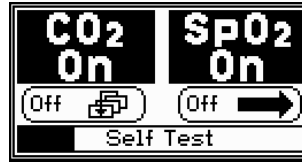

Figure 4: Self Test Screen
6. As the monitor continues to test its internal subsystems, the Self Test screen appears (refer to Figure 4). During this test, there is an option to choose a single parameter operation. This option is also available from the *Setup* menu (see the *Basic Operation* section of this manual).